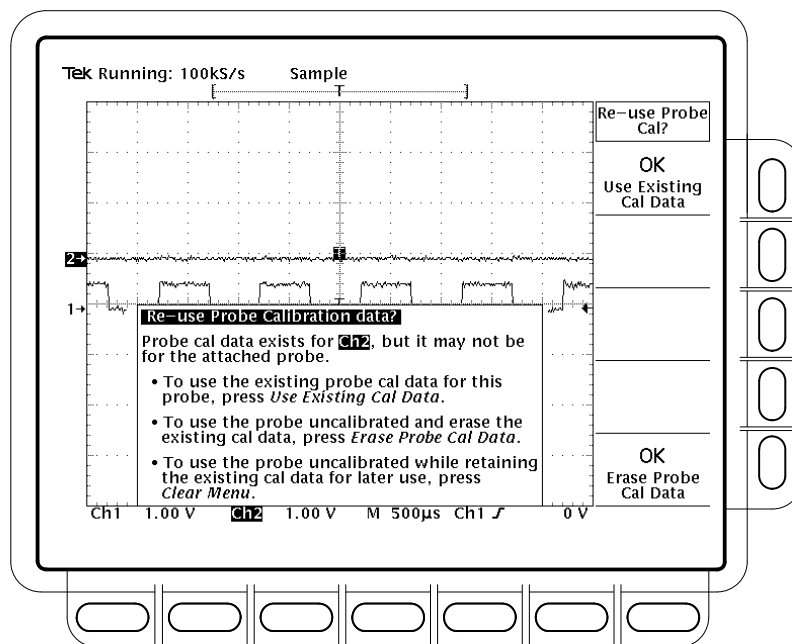

Figure 3–60: Re-use Probe Calibration Data Menu
18. After the clock icon is removed, verify the word **Initialized** changed to **Pass** under **Cal Probe** in the main menu. (See Figure 3–59.)
- If a probe has a simple oscilloscope interface and the probe attenuation factor is the same as was stored at the last Probe Cal, the oscilloscope cannot determine whether it is the same probe. Therefore, it displays the *Re-use Probe Calibration data?* menu. (See Figure 3–60.)